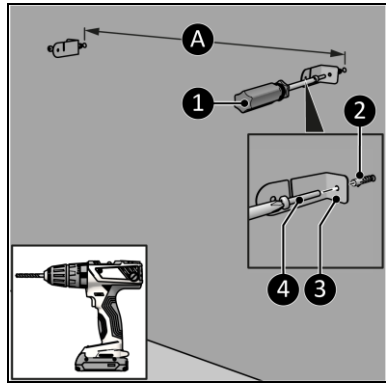
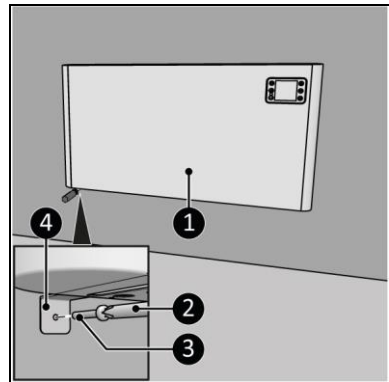

Figure 10
Figure 13
4. Drill two holes at least 610 mm above the floor for the brackets. The distance between the holes is approximately (Figure 10, pos. A)\*:
5. Place wall plugs (Figure 10, pos. 2).
6. Screw and tighten a left and a right bracket (Figure 10, pos. 3) to the wall with a large screw (Figure 10, pos. 4) using a Phillips screwdriver (Figure 10, pos. 1).
15. Screw and tighten the device brackets (Figure 13, pos. 4) with a large screw (Figure 13, pos. 3) to the wall (Figure 10, pos. 3) using a Phillips screwdriver (Figure 13, pos. 2).